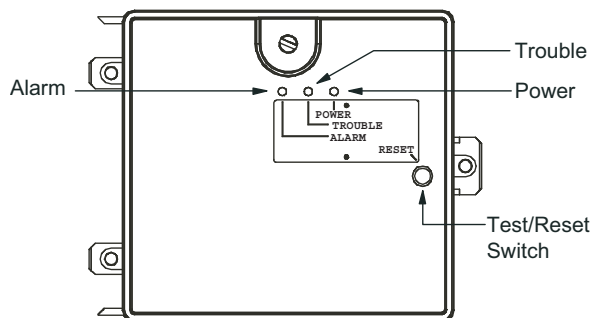

Fig. 50 — Controller Assembly
- The contacts on the controller's supervisory relay switch positions. (See Fig. 50.)